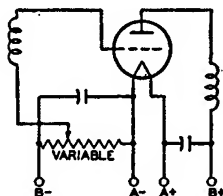
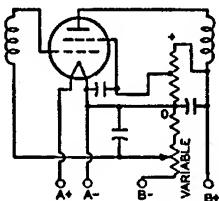

Fig. 91—Amplifier stage using a variable cathode-bias resistor for volume control.
Fig. 93—Amplifier stage using a bleeder circuit and potentiometer for volume control.
Grid-bias variation for the rf and if amplifier stages is a convenient and frequently used method for controlling receiver volume. The variable voltage supplied to the grid may be obtained: (1) from a variable cathode resistor as shown in Figs. 91 and 92; (2) from a bleeder circuit by means of a potentiometer as shown in Fig. 93; or (3) from a bleeder circuit in which the bleeder current is varied by a tube